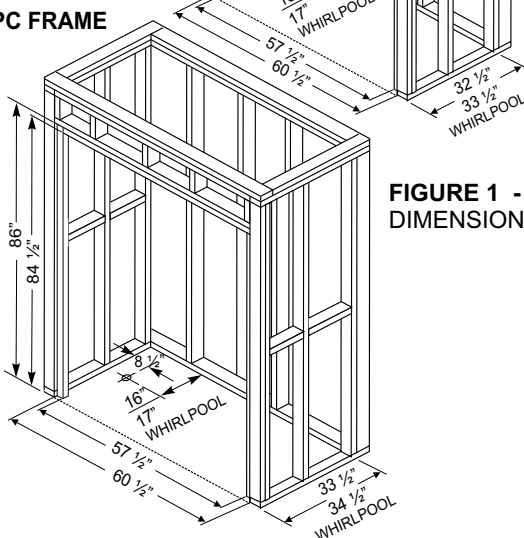
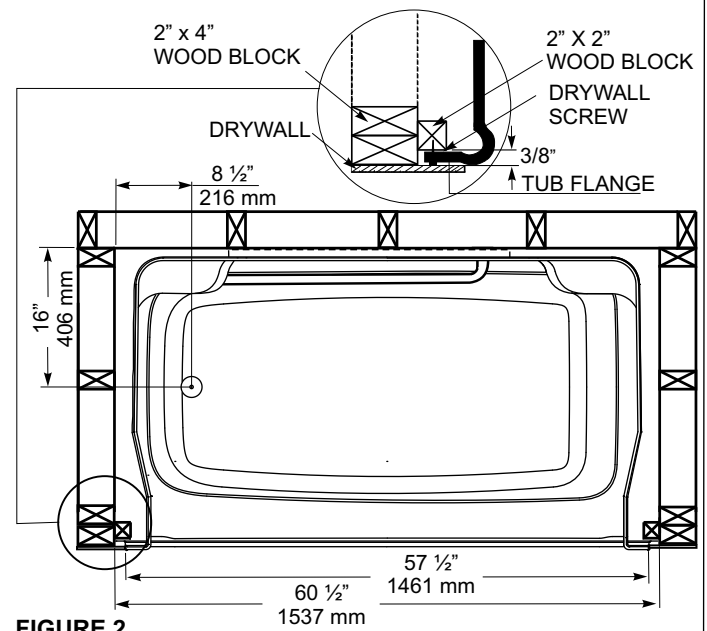

FIGURE 1 - LAYOUT DIMENSIONS
FIGURE 2
- The Tub Shower is to fit into formed recess as shown in Figure 1 and Figure 2.
Inside dimension of the studded alcove are to be as specified in Figure 1.
- Follow Figure 2 as specified to ensure width is 57 1/2" between the 2" x 2" recessed studs. (See detail view.)
- Build solid framing to the dimensions in Figure 1.